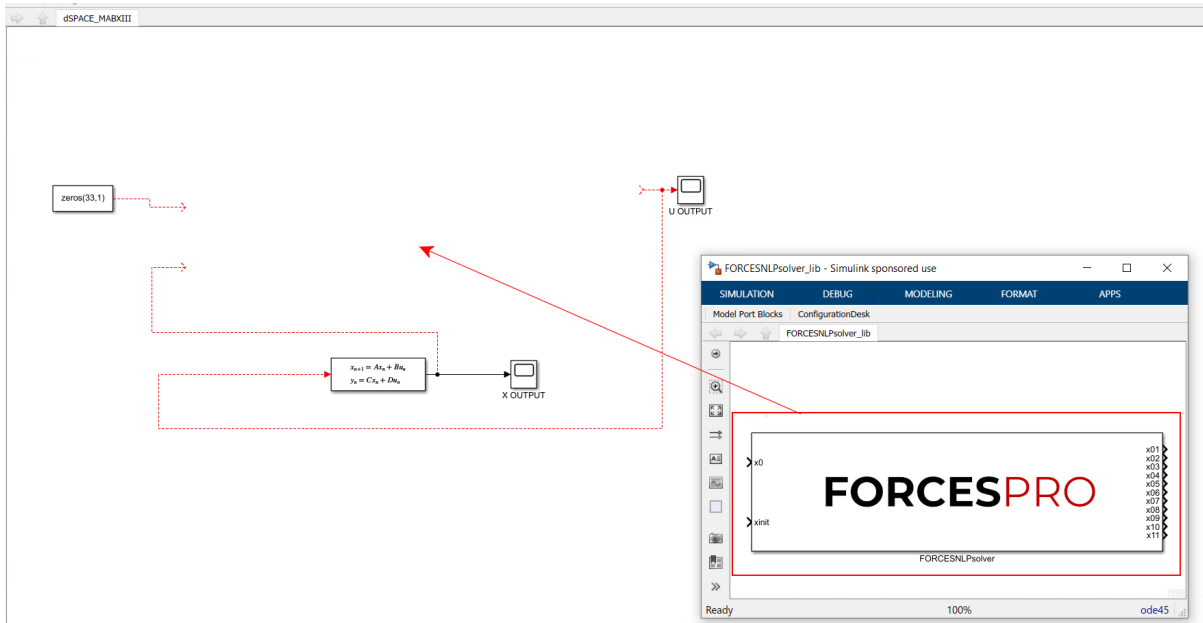

Figure 12.62: Open the generated Simulink solver model.
- 6) Open the `FORCESNLPsolver_lib.mdl` Simulink model file, contained in the `interface` folder of the `FORCESNLPsolver` folder created during code generation (see Figure 12.62).